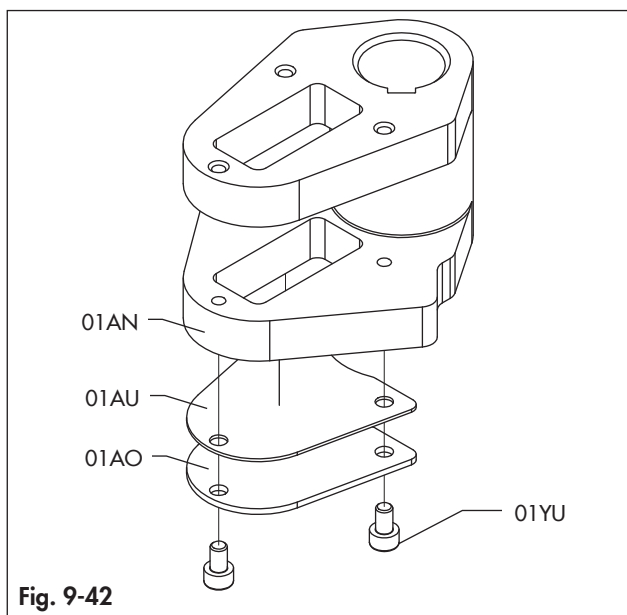

Fig. 9-42
- Clean and inspect the yoke (01AN). (Fig. 9-42).
- Assembly the lower yoke cover (01AO) and the gasket (01AU). (Fig. 9-42).
- Apply the thread locker Loxeal 83•21 or equivalent and tighten the screws (01YU). (Fig. 9-42).